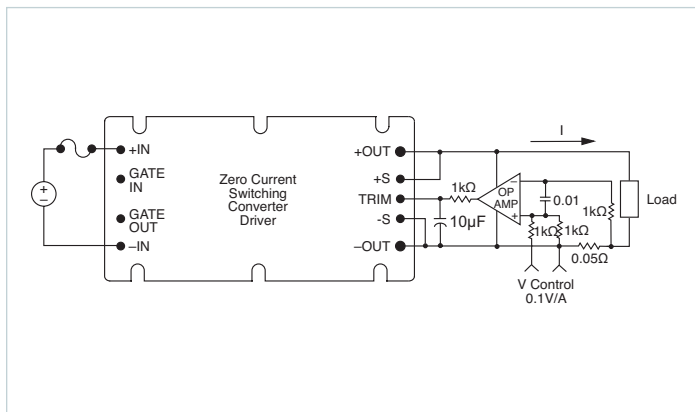

Figure 7.6 — Programmable current source
**Programmable Current Source:** (Figure 7.6) Module output voltage should not exceed the rated voltage of the operational amplifier. This applies to VI-/MI-200, VI-/MI-J00, ComPAC / MI-ComPAC, FlatPAC and MegaMod / MI-MegaMod Family modules.